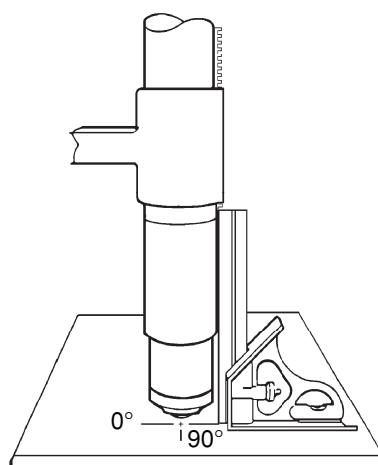

**Figure 3-9 Interface Cable (for use with Control Panel SA for current control)**
- ⑦ Connect interface cable (for use with control panel subassembly) between power supply and CNC (Fig. 3-9).
Connect the interface cable between the power supply and CNC (Fig. 3-9).